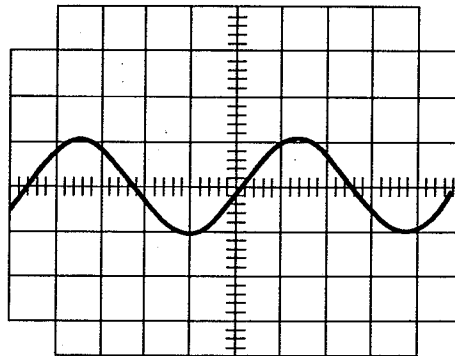

Fig. 4.5 Output Waveform
Consumable materials (except wire) required in repairing the amplifier are listed in Fig. 4.5. The use of these materials are explained in the last column entitled "Use".
B. 1KHz sine wave; 1V	B. When applying a 1V, 1KHz signal into both an 8 and 4 ohm load, no oscillation should be visible (via oscilloscope) in the output waveform. Fig. 4.5 shows a correct waveform.